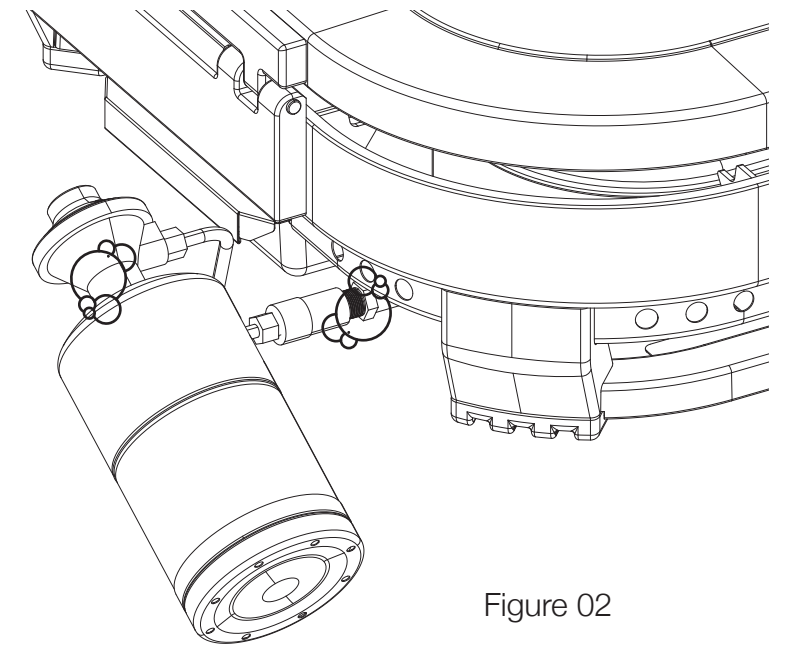

Figure 02
4. Use a clean paintbrush to brush a 10/90 mild soap-and-water solution onto joint areas of the valves and regulator (indicated by arrows in Figure 02).